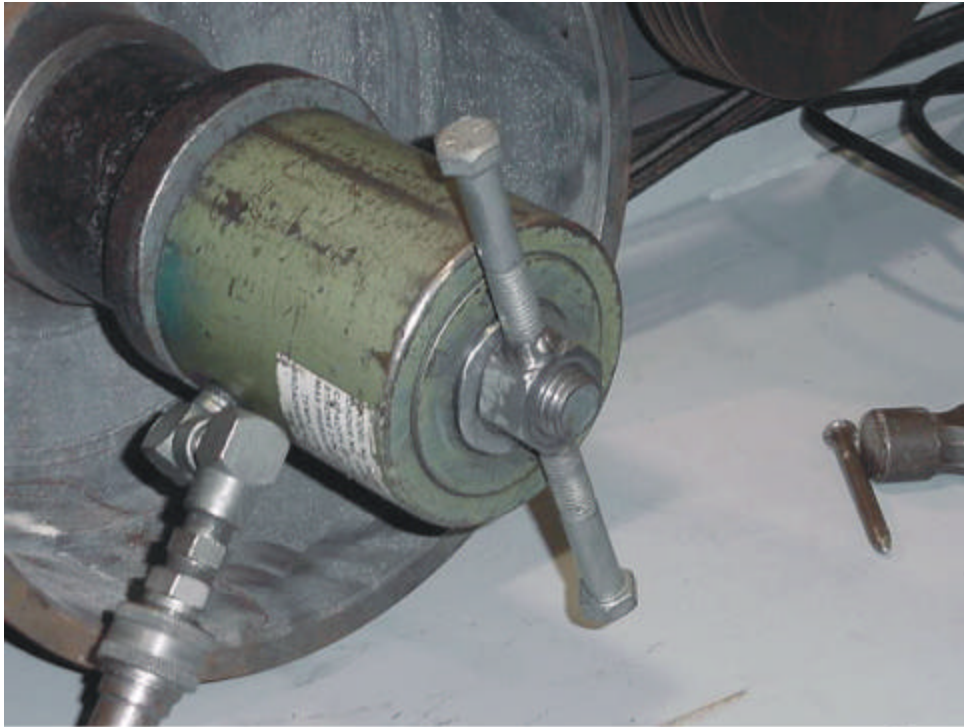

Figure 4
7) Hand-tighten nut to the shaft. Figure 4